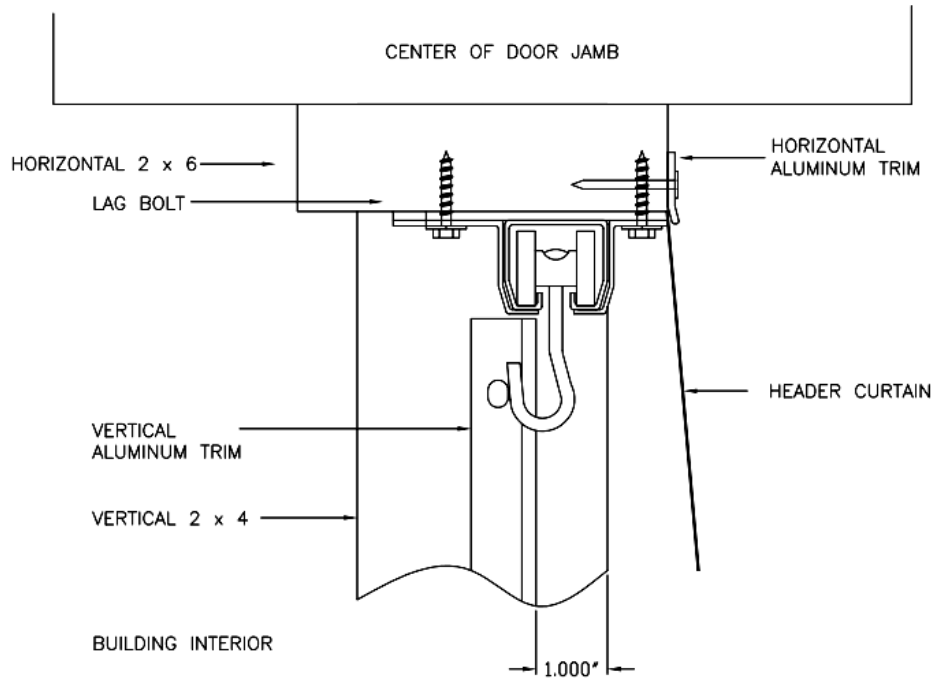

FIGURE 3 (RH SIDE OF THE DOOR)
5. Install the sliding track. Install the track mounting brackets on areas marked on the track. Mount the track, so that the end of the mounting bracket is flush with the outside edge of the horizontal 2 x 6. Half the track mounting brackets face the interior of the building and the other half of the track mounting brackets will face the exterior of the building so that one side of the screen can bi-pass in front of the other. (See Fig 3 and 4).
9. Pull one half of the curtain back to its vertical 2 x 4. Start at the top of the curtain; pull the curtain snugly to the interior vertical 2 x 4, neatly folding the curtain under if necessary to take up any slack. Put 1 nail at the top, now pull the bottom over and down, snug and nail. In line with the first two nails, put two more in evenly spaced now cover with the aluminum trim and nail every other hole. (See Fig. 3). Repeat Steps 9 & 10 for the other half of the curtain.
10. Nailing every other hole, fasten header curtain along the top of horizontal 2 x 6 with clamp strip and roofing nails. The Gateway Logo should face building exterior. (See Fig. 3).